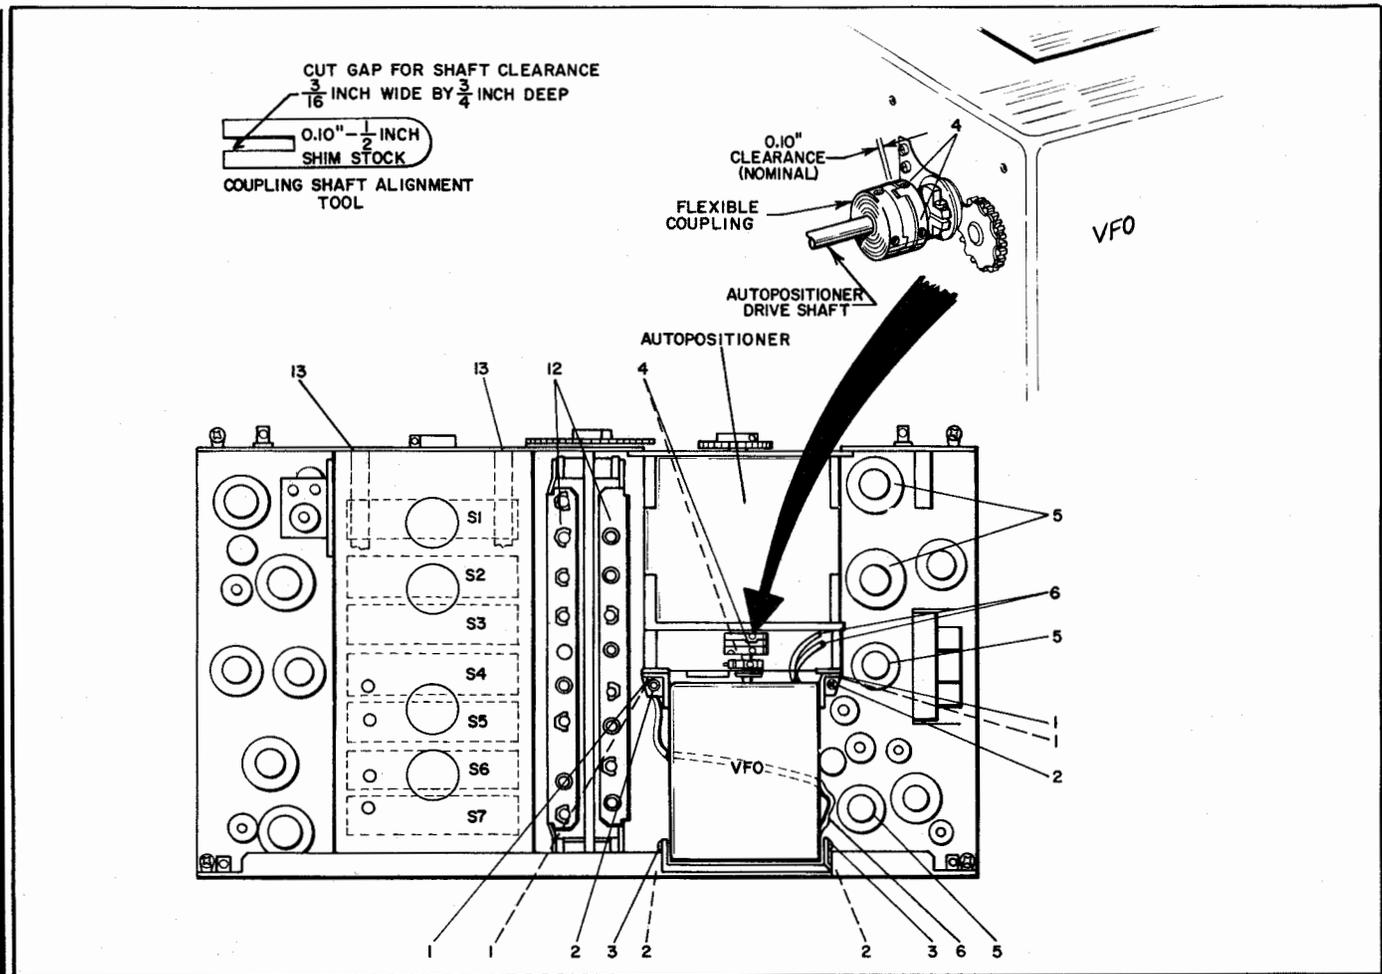
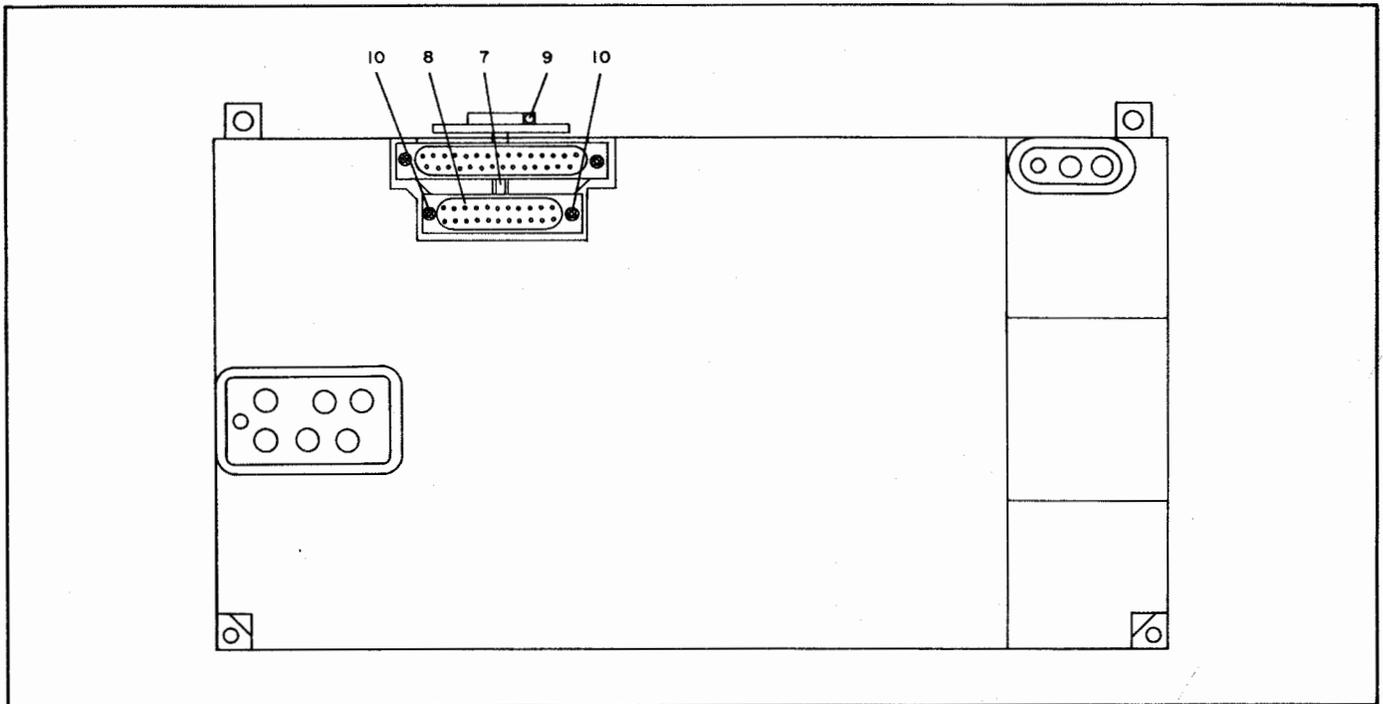
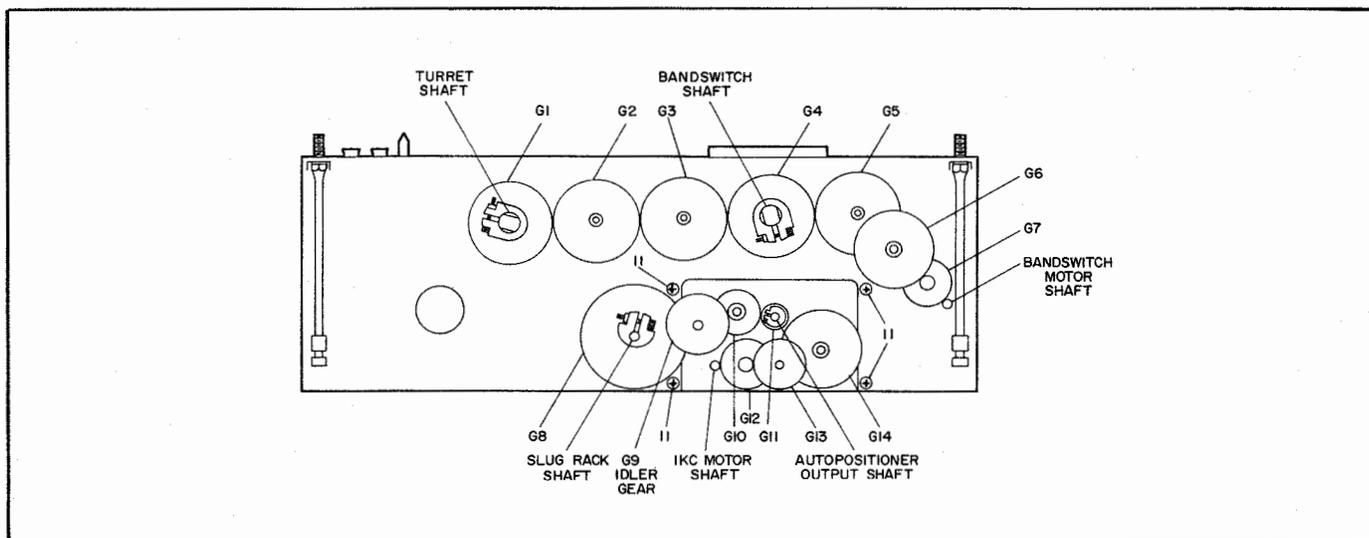

Figure 6-28. RF Translator Module A12, Top View
Figure 6-29. RF Translator Module A12, Bottom View
Figure 6-30. RF Translator Module A12, Gear Plate
d. Refer to figure 6-28. Remove four screws (1) fastening vfo to Autopositioner.
e. Remove four screws (2) fastening vfo brackets to rf translator chassis and back plate.
f. Loosen two screws (3) holding back brackets on vfo. Rotate brackets approximately 90 degrees in order to have room to move vfo.
g. Loosen setscrews (4) on coupler between vfo and Autopositioner.
h. Remove four tubes (5) adjacent to vfo and Autopositioner.
i. To remove the vfo, tag and unsolder the vfo leads (6) from connectors P6 and P9-31 and the other internal connections in the module. Note placement of these leads on rf translator chassis. The vfo may then be lifted from rf translator.
j. Refer to figure 6-29. Remove 3/8-inch flatted shaft (7) directly above 25-pin connector (8) by loosening clamp (9) on gear that drives the shaft. Pull shaft out through gear.
k. Remove two screws (10) holding 25-pin connector to bottom of rf translator chassis.
l. Refer to figure 6-30. Remove idler gear (G9) which couples Autopositioner to slug rack gear.
m. Refer to figure 6-30. Remove four screws (11) holding Autopositioner to gear plate.
a. Refer to figures 6-28, 6-29, and 6-30. Carefully maneuver Autopositioner into position under gear plate. Place 25-pin connector (8) through 28-position switch to its position at bottom of module. Be careful not to damage switch wafers when placing connector through switch.
b. Replace four screws (11) holding Autopositioner to gear plate. Leave screws one-half turn loose.
c. Position the two slug racks (12) at equal height above the chassis.
- j. Place vfo in its position under Autopositioner. Run three vfo leads (6) through holes in rf translator chassis, and solder to connector P6 and P9-31 and internal connections in module.
- k. Replace four tubes (5) adjacent to vfo and Autopositioner.
- l. Rotate rear brackets (3) on vfo so that they can be fastened to rear plate.
- m. Replace four screws (2) fastening vfo brackets to rear plate and rf translator chassis.
- n. Place the coupling shaft alignment tool (figure 6-28) between the coupling disc on vfo shaft and the brass, center disc. Press the coupling disc snugly
Refer to figure 6-28. Use of the 0.10-inch coupling shaft alignment tool is required for optimum mechanical adjustment. The allowable tolerance between the coupling faces is 0.005 in. to 0.015 in. An excessive gap (above 0.015 in.) will reduce tuning reset accuracy due to backlash; not enough gap (below 0.005 in.) will cause mechanical distortion transmitted to the vfo tuning element, resulting in poor (nonlinear) tracking.